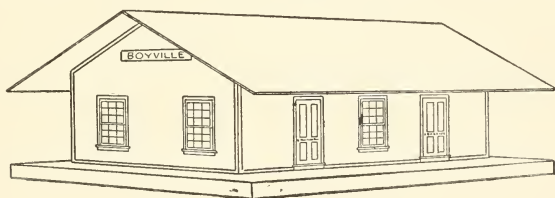

FIG. 95. — The Railway Depot.
**A Station** such as is illustrated in Fig. 95 is made out of cardboard and mounted upon a seven-eighths-inch board large enough to form a railway platform. After cutting out the side and end pieces, with door and window openings placed as shown in the illustration, fasten them together with strips of linen glued in the corners. Make the roof low and extend it over the platform upon each side and over the gable-ends, as shown in the illustration. Paint the sides of the depot the regulation depot red, and the roof a shingle or slate color. Paint